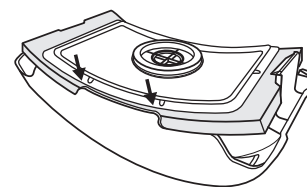

Fig. 7c
3. Place filter with filter surround gasket into the filter cover (Fig. 7c). Carefully tuck filter surround gasket material between the top of the filter cover and filter housing.